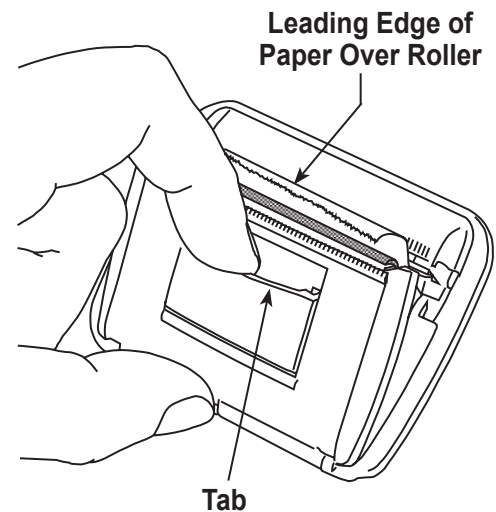

Figure 11
1. Remove the cover on the printer by pulling out on the tab as shown in Figure 11.
8. Place the printer into the cut-out area on the control panel. Press the face of the printer flush to the panel, oriented with the paper coming out at the top of the printer as shown in Figure 11.